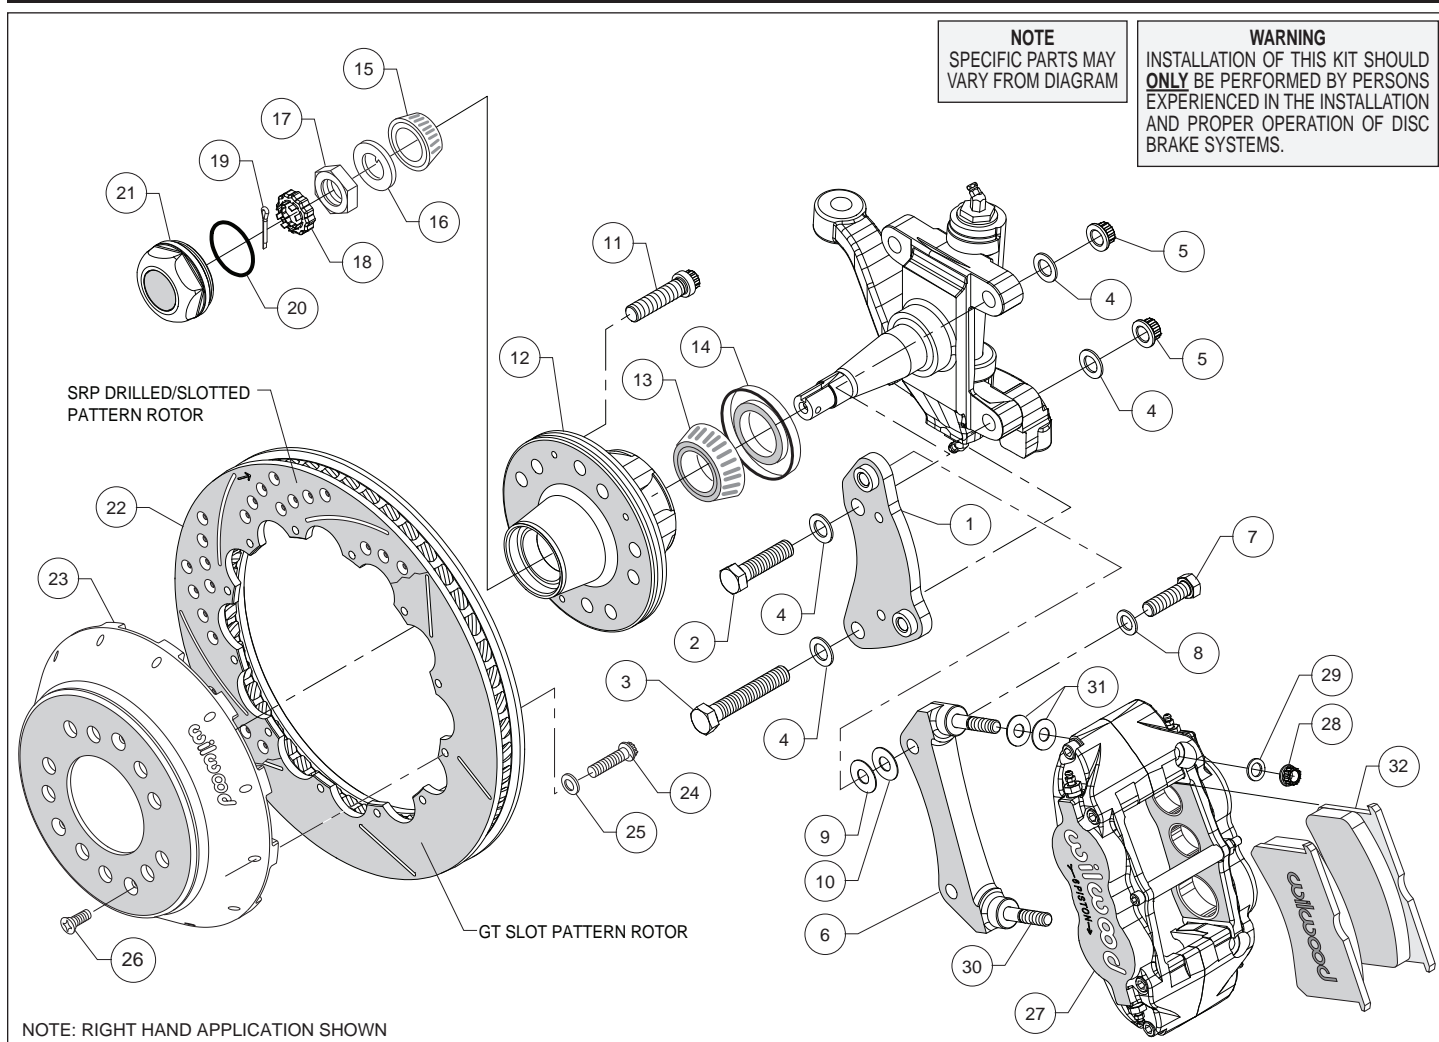
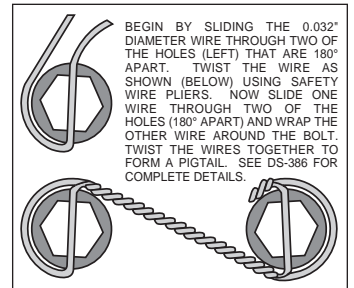
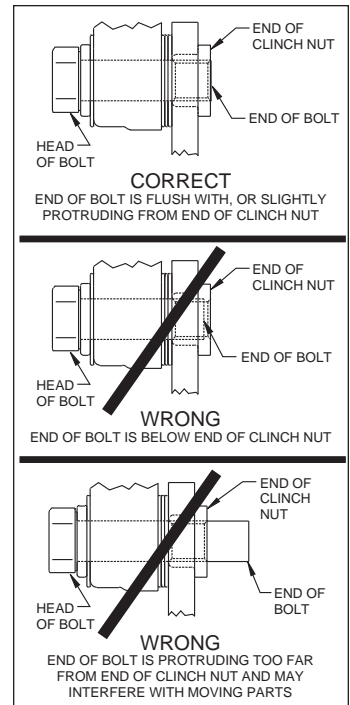

Figure 1. Typical Installation Configuration
Figure 3. Safety Wire Diagram
Figure 4. Clinch Nut Engagement Diagram
**Assembly Instructions** (numbers in parenthesis refer to the parts list, on the preceding page and Figure 1). **CAUTION:** All mounting bolts must fully engage clinch nuts. Be sure to check that all bolts are either flush or protruding through flanged side of clinch nut after shimming, Figure 4.
- Orient the spindle bracket (1) as shown in Figure 1 and Photo 1, and install using bolts (2 and 3), washers (4) and nuts (5). Temporarily tighten the mounting bolts. Ensure that the flanged heads of the clinch nuts in the bracket are facing outboard, Photo 1. **NOTE:** The bracket must fit squarely against the mount bosses on the upright. Inspect for interference from casting irregularities, machining ridges, burrs, etc. Torque lock nuts (5) to 65 ft-lb.
- The caliper mount radial bracket (6) should initially be installed with clean, dry threads on the mounting bolts. Orient the bracket as shown in Figure 1, and Photo 2. Install onto the spindle bracket using bolts (7), and washers (8). Initially place one .030 thick shims (9) on each bolt between the radial and spindle brackets, Figure 1. Temporarily tighten the mounting bolts. Later, after the caliper alignment has been checked, the mount bolts will be secured using red *Loctite*® 271.
- Screw dust cap (21) into hub (12), Photo 8. Friction created by the o-ring (20) on the dust cap keeps it from unscrewing. **NOTE:** *The O.D. of the existing OEM spindle washer may be larger than the I.D. of the dust cap not allowing it to seat against the hub face. Therefore, use the spindle washer (16) supplied with the kit instead of the OEM washer.*
- Orient the rotor (22) and the hat (23) as shown in Figure 1 and Photo 9. Attach rotor to hat using bolts (24) and washers (25). Using an alternating sequence, apply red *Loctite*® 271 to the threads, and torque to 155 in-lbs. For an added measure of security, the bolts may be safety wired using standard 0.032 inch diameter stainless steel safety wire as shown in Figure 3. Refer to Wilwood's data sheet DS-386 (available at [www.wilwood.com/Pdf/DataSheets/ds386.pdf](http://www.wilwood.com/Pdf/DataSheets/ds386.pdf)) for complete safety wire installation instructions.
- NOTE:** *This kit contains distinct right and left hand calipers that must be mounted in a specific direction, as described below.* Lubricate the caliper mounting studs (30) with lightweight oil. Initially place two .035" thick shims (31) on each stud between the caliper and the bracket, as shown in Figure 1 and Photo 11. Mount the caliper (27) onto the bracket (6) using lock nuts (28) and washers (29), Figure 1. Ensure that the caliper is mounted so the largest pistons are at the rotor exit end of the caliper, in relation to the direction of rotor rotation. Temporarily tighten the lock nuts and view the rotor through the top opening of the caliper. The rotor should be centered in the caliper, Photo 12. If not, adjust by adding or subtracting shims (9 and/or 10) between the spindle bracket (1) and the caliper mount bracket (6). Always